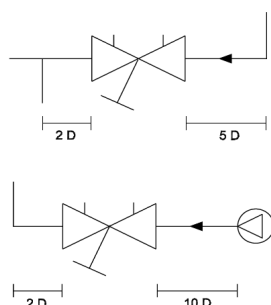

Figure 1
7. In order to insure the valve works properly, there need a straight pipe which length is not less than 5 times of pipe diameter at the water inlet, and 2 times at the water outlet. (see Fig. 1)
1. Fully close the valve. (Figure 1)